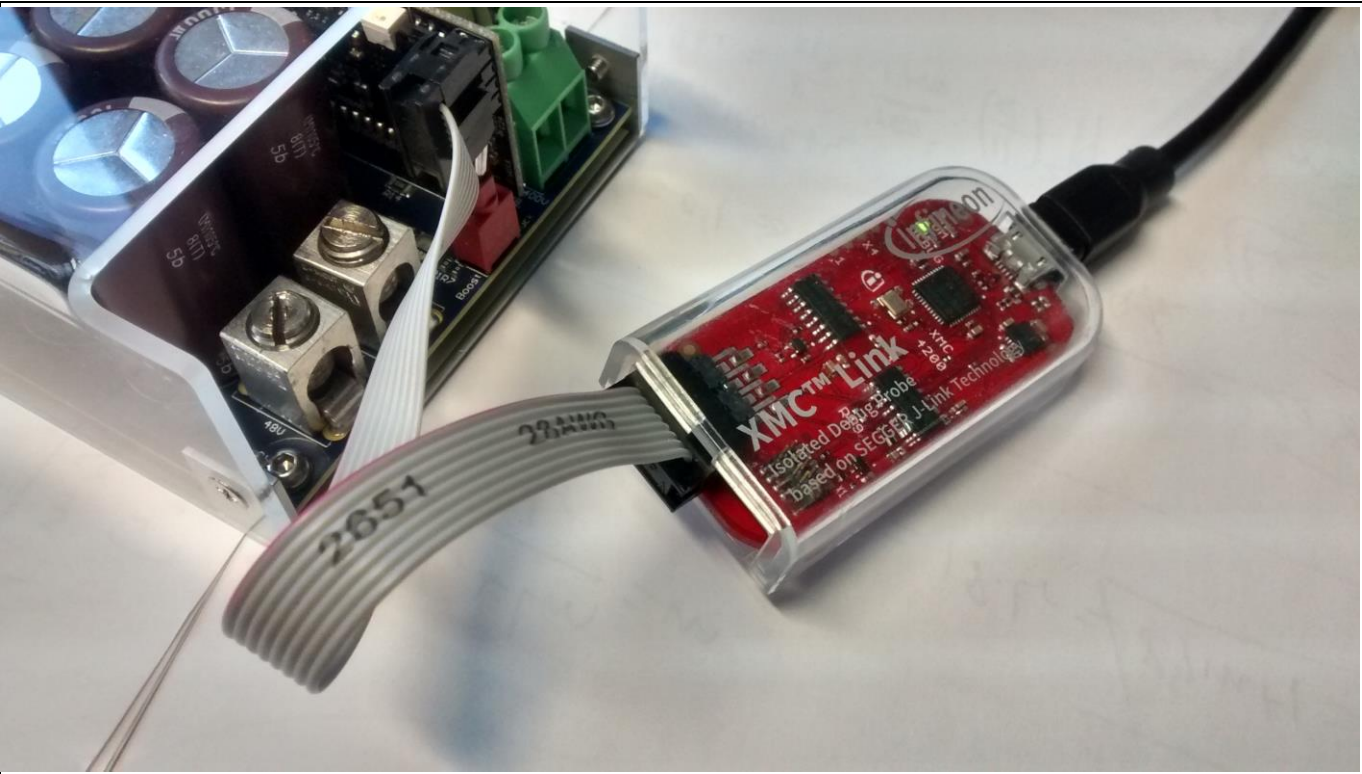

Figure 3 XMC™ Link connection to the control card
4. Connect your XMC™ target board with XMC™ Link using one of the enclosed cables (Figure 3).